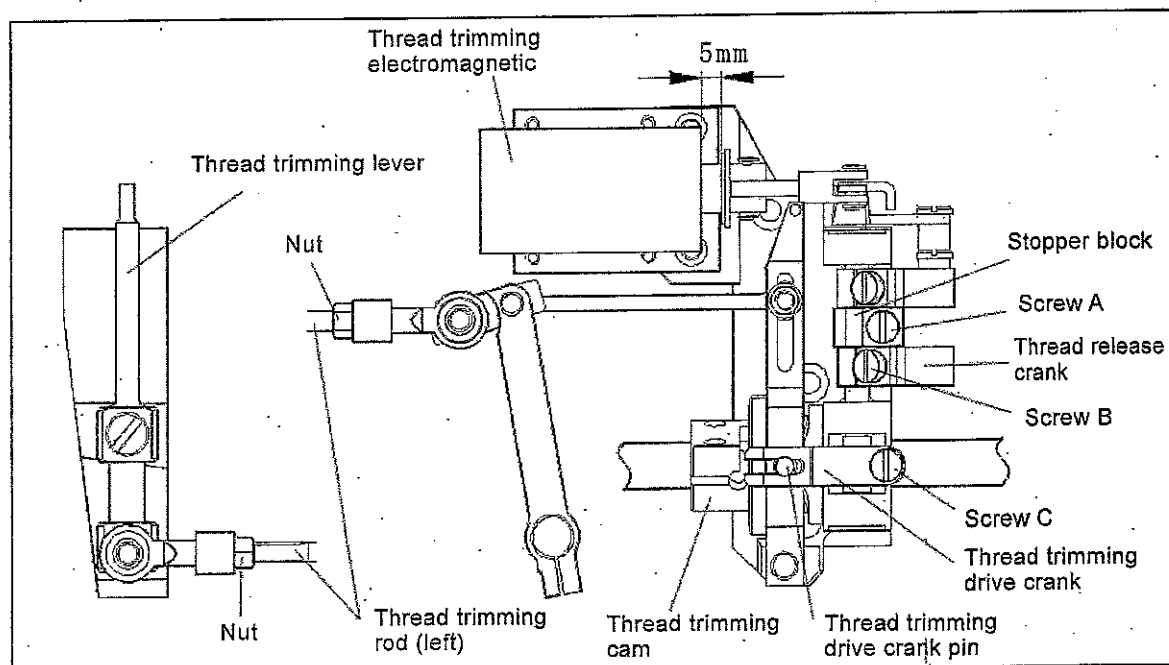

Fig.24
- 1)Lean the machine head backward, screw out the bottom cover screw (1) of hook saddle, open bottom cover (2).
- 3)Loosen thread finger cam screw (3), adjust thread finger cam (4), make thread finger site on the nearest position of hook, and then retighten thread finger cam screw.
- 4)Loosen hook opener screw (5), adjust the distance between thread finger and hook is 0.3-0.4mm.
33、 The thread trimming device adjustment(Fig.24)